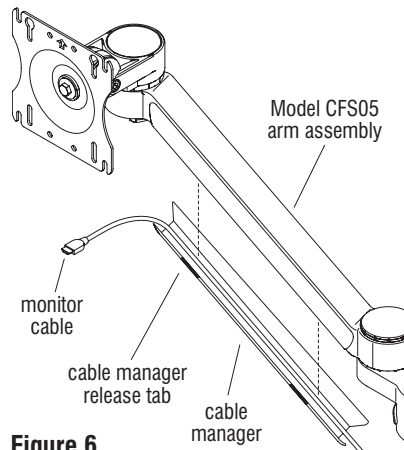

Figure 6
2. Lay cables in arm cable manager (Figure 6).
3. Snap cable manager back to the underside of the arm assembly taking note the text "FRONT" inside the cable manager (Figure 6).